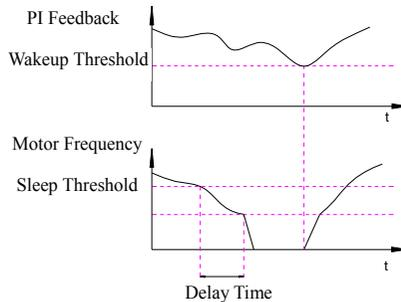

Figure 5-7-3 Sleep & Wakeup
- ◆ The pressure feedback should be reduced to the “wake-up” threshold to switch to the “wake-up” state. Then, the variable pump will be started (as showed in Figure 5-7-3). The wakeup threshold setting range corresponds to the analog PID feedback percentage.